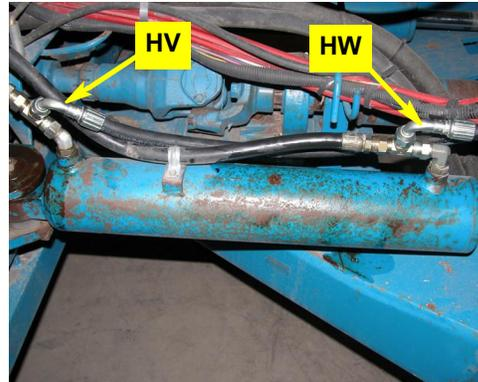

Figure 7a: Steering hoses connected at steering cylinders
- a. Connect steering hoses **HV** (the longer) and **HW** to the stem of the run-tees at the head and rod ends of the steering cylinder respectively (Figure 7a).